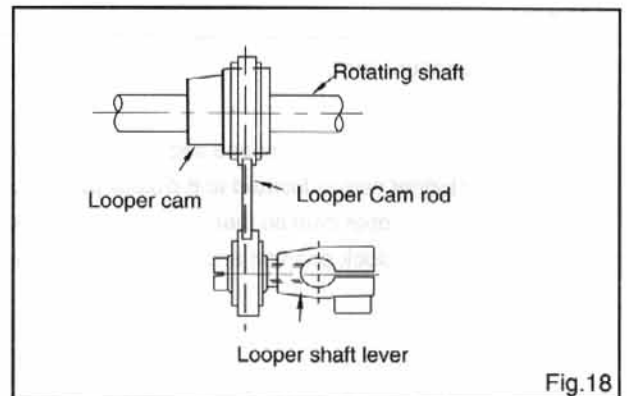

Fig.18
- The position of lower and upper looper cams should be adjusted so that they will be located as shown in Fig. 18 when looper shaft levers are parallel with the rotating shaft.